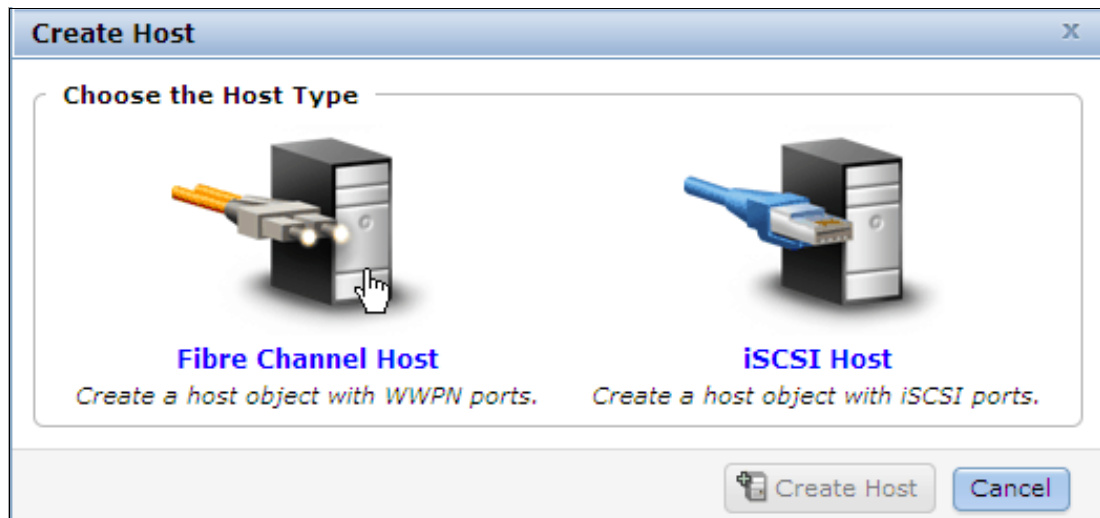

Figure 3-80 Choose the host type panel
Click **New Host** and the Create Host panel is revealed. Choose the host type from either Fibre Channel (FC) or iSCSI host and the applicable host configuration panel will be display. Once the host type has been determined the host name and port definitions can be configured. Figure 3-80 shows the choose host type panel.